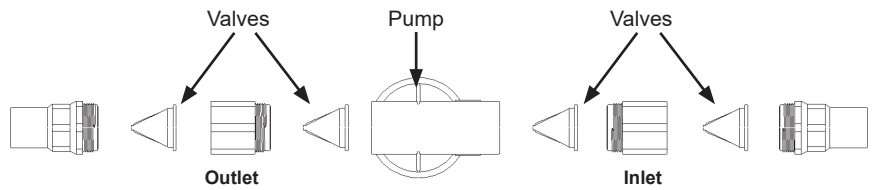

Fig. 2 Pump Head
- 3. When refitting ensure the valves are assembled in the correct orientation (Fig 2).